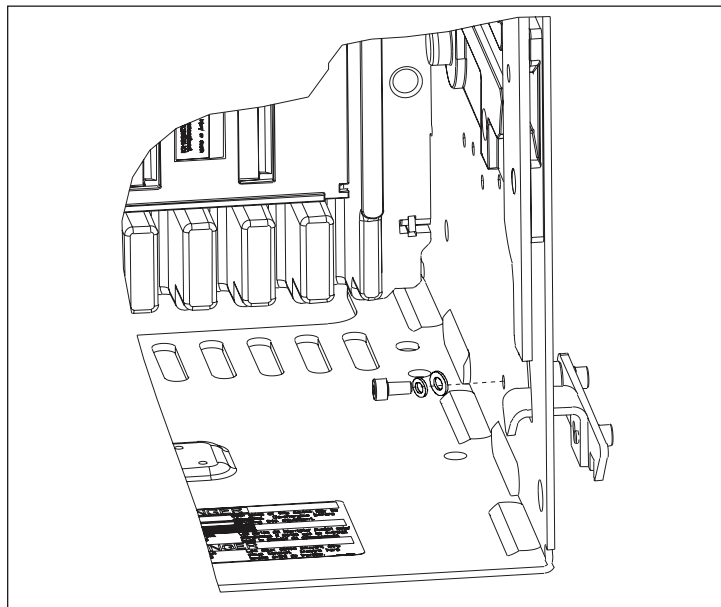

Figure 5. Assembly View
Step 4: Install a M5 screw and washers from the inside of the cassette as shown in **Figure 5**. Torque screw to 35 in-lbs (4 N-m).